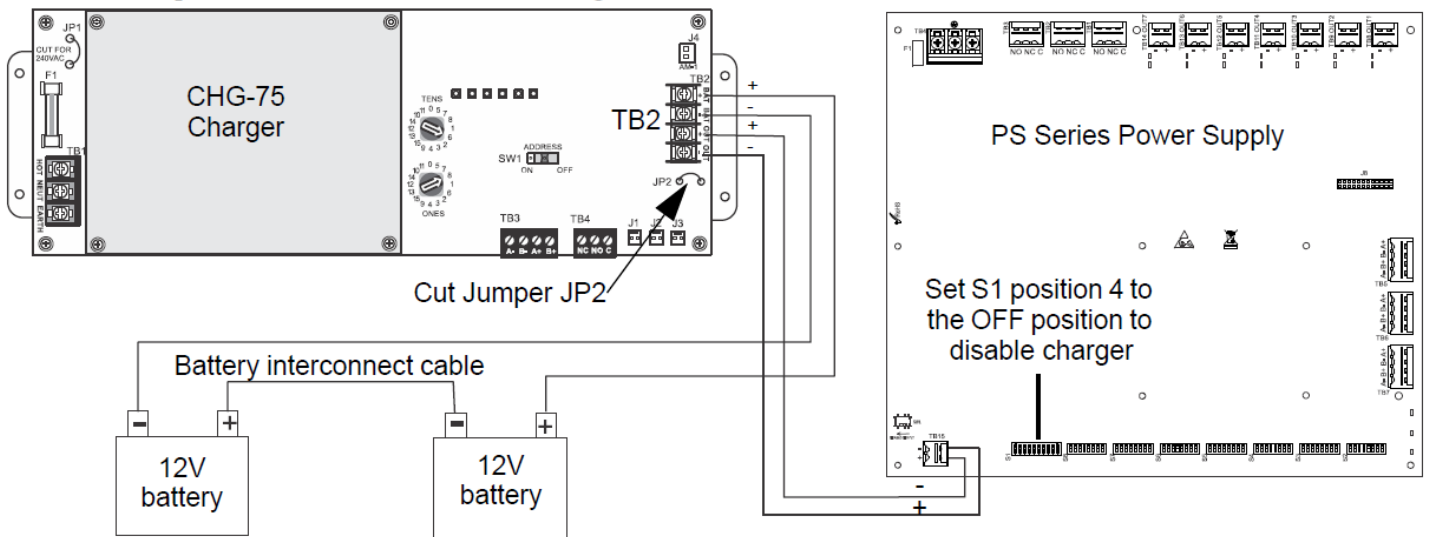

Figure 2-10: Connecting the Power Supply to a CHG-75 Charger
02. Connect the battery cables between TB15 (+ and –) on the power supply and the CHG-75 charger output circuit (TB2: Out+ and Out–) as shown in Figure 2.10. Be certain to observe polarity.